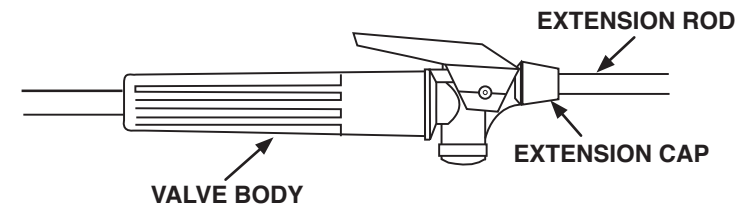

FIG. 5
- Step 1. Extension cap at extension rod. (FIG. 5)